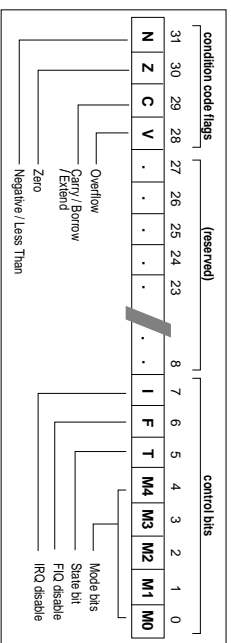

Figure 3-6: Program status register format
- The arrangement of bits is shown in Figure 3-6: Program status register format.